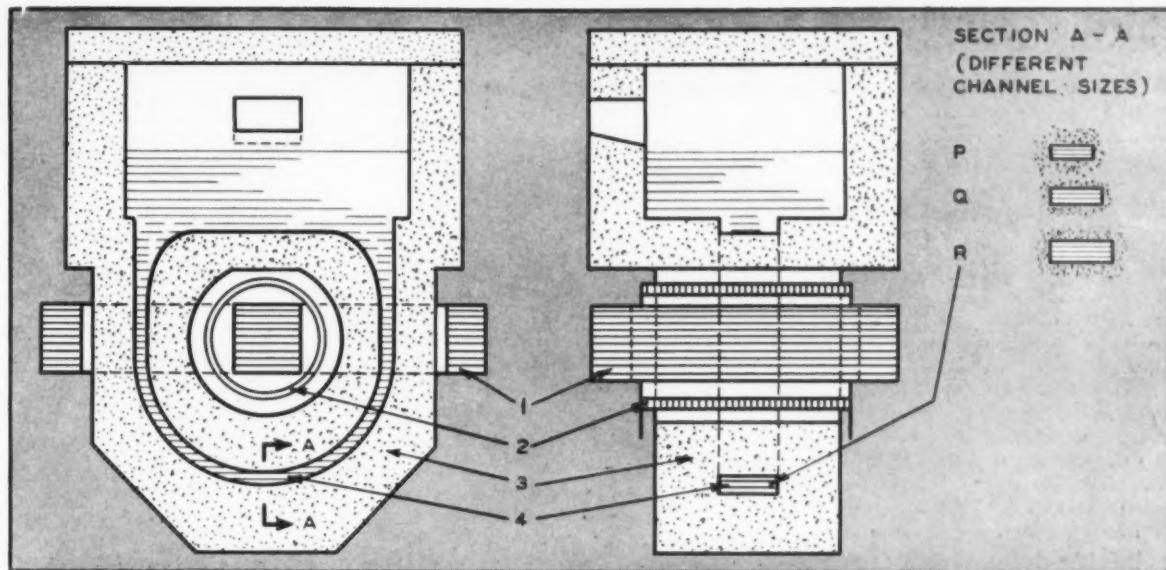

Figure 1.
■ A low-frequency induction furnace, often used for melting non-ferrous metals such as brass, consists essentially of (Fig. 1): (1) steel laminations; (2) primary coil; (3) refractory lining; and (4) secondary channel with the pool of molten metal. The most decisive point in getting best efficiency is the cross-sectional area of the channel within the furnace lining, which forms the secondary, one-turn winding.